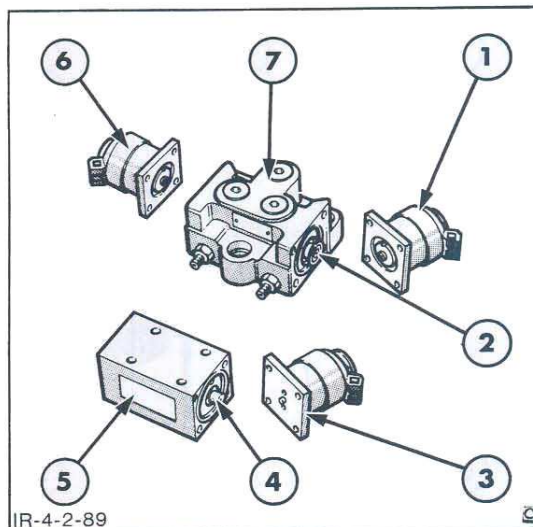

Figure 90
1. Remove the lock-up valve and control valve solenoid retaining bolts and disassemble the solenoid assemblies from the valve bodies, Figure 90.